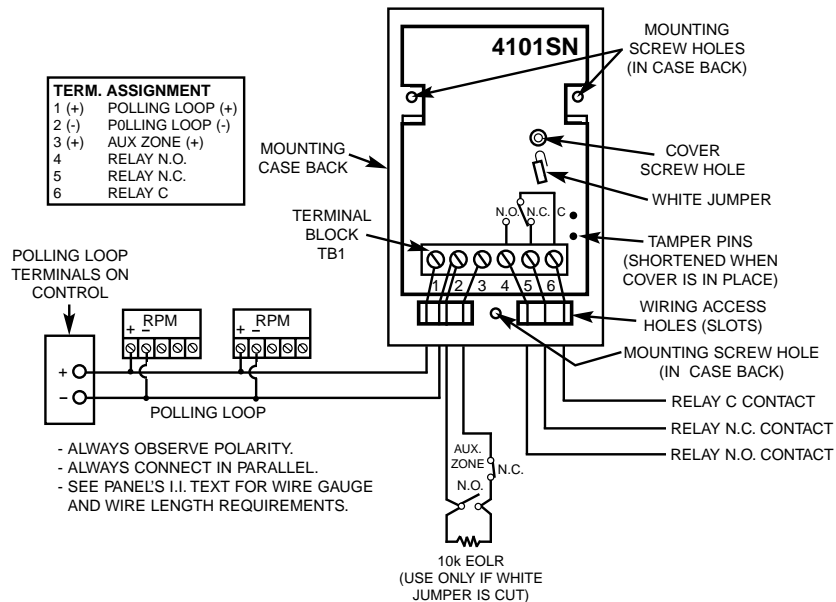

Figure 1: 4101SN V-PLEX Single Output Relay Module
2. Fasten the case back to the wall with three screws (not supplied) through the case back. (See *Figure 1*.)
2. Make wiring connections as shown in *Figure 1*. When you leave the white jumper intact, the 10K EOLR for the aux zone is internal. Only N.O. devices may be used, and these devices must be mounted no farther than 3 feet from the module in UL installations.